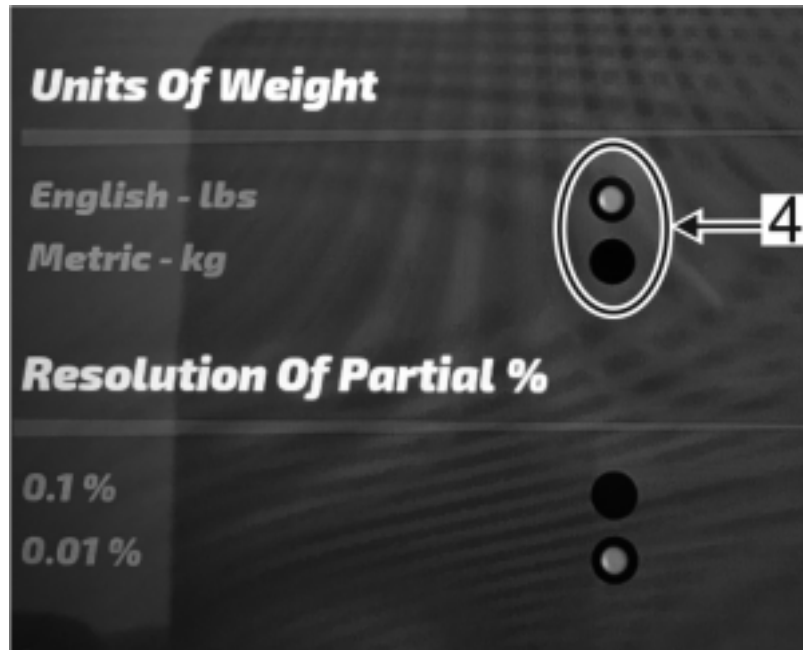

Figure 82 (shown as an example)
- ⇒ Figure 82 (shown as an example) -Step 4- – Scroll down and switch from "Metric - kg" to "English - lbs" under "Units of Weight"